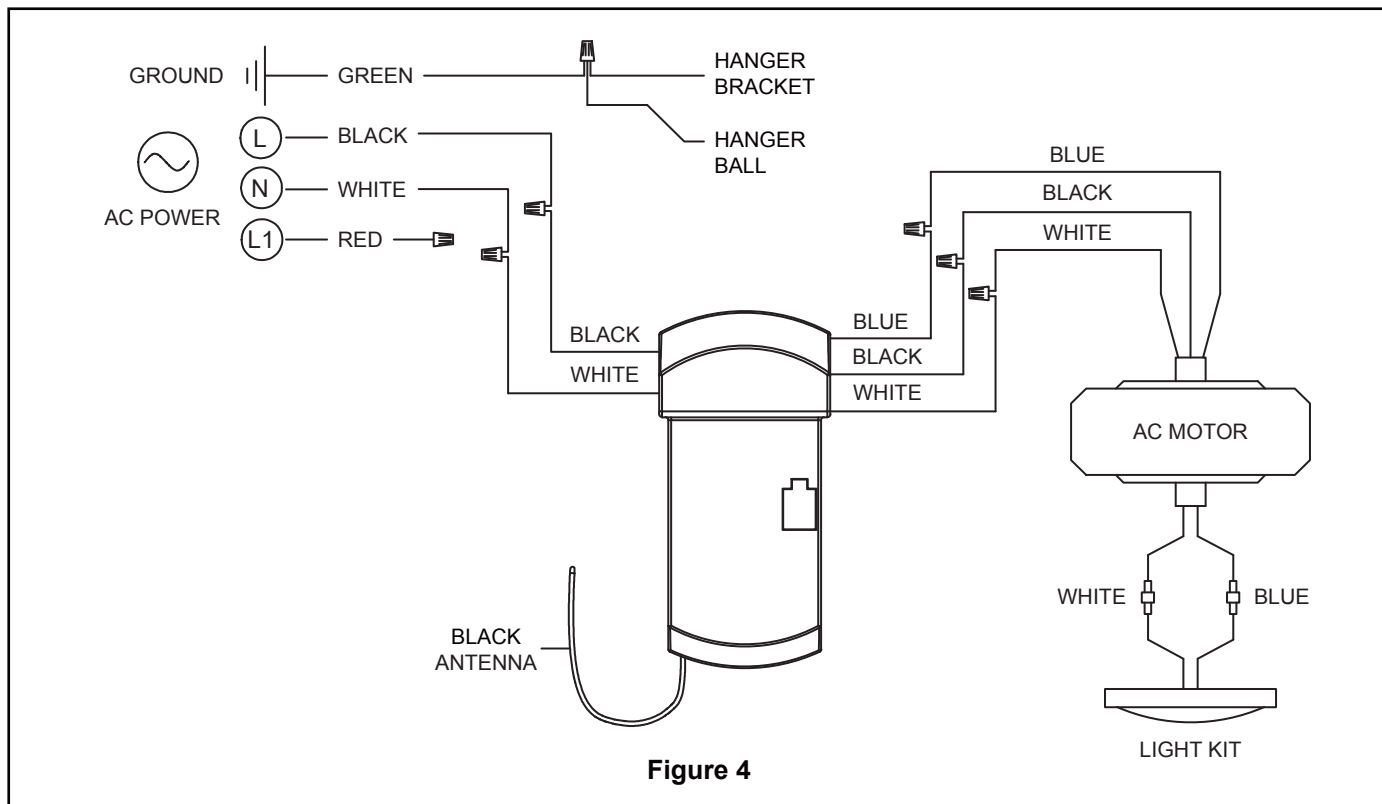

Figure 4
3. Connect green wires from hanger bracket, hanger ball and ground from supply using wire connector. Connect black wire from receiver unit marked “AC IN L” to black supply wire using wire connector. Connect white wire from receiver unit marked “AC IN N” to white supply wire using wire connector. Connect white wire from receiver unit marked “TO MOTOR N” to white wire from fan using wire connector supplied with receiver unit. Connect black wire from receiver unit marked “TO MOTOR L” to black wire from fan using wire connector supplied with receiver unit. Lastly, connect blue wire from receiver unit to the blue fan light wire using wire connector supplied with receiver unit. (Figure 4)